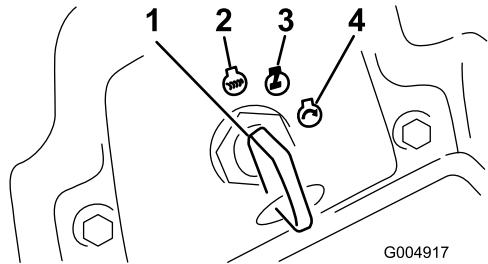

Figure 16
- Turn the ignition key clockwise to the Run position (Figure 16).
- Turn the ignition key to the Off position (Figure 16). Wait for all moving parts to stop before leaving the operating position.